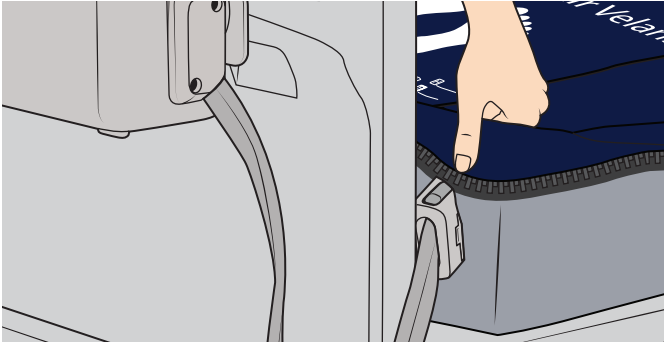

Figure 19
1. Locate the connector inside the connector cavity, near the foot end of the mattress. See Figure 19.